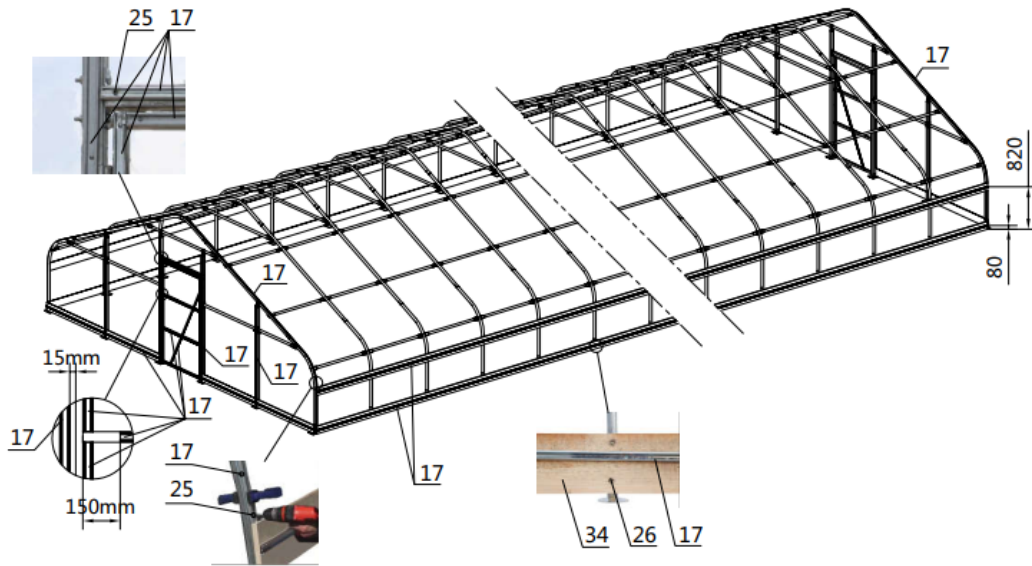

Figure 8
Step 5 : Installing boards (#34) and reed groove (#17) (refer to figure 8)
- (98) Reed groove (#17)
- (490) Self tapping screw (#25)
- (216) Self tapping screw (#26)